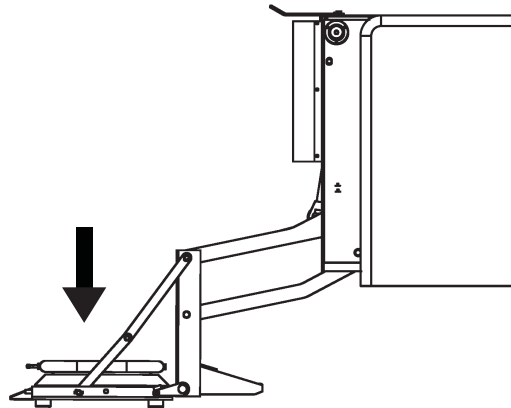

FIG. 8-1
11. To use the Tire Rack, lower the Platform to the ground (**FIG. 8-1**).